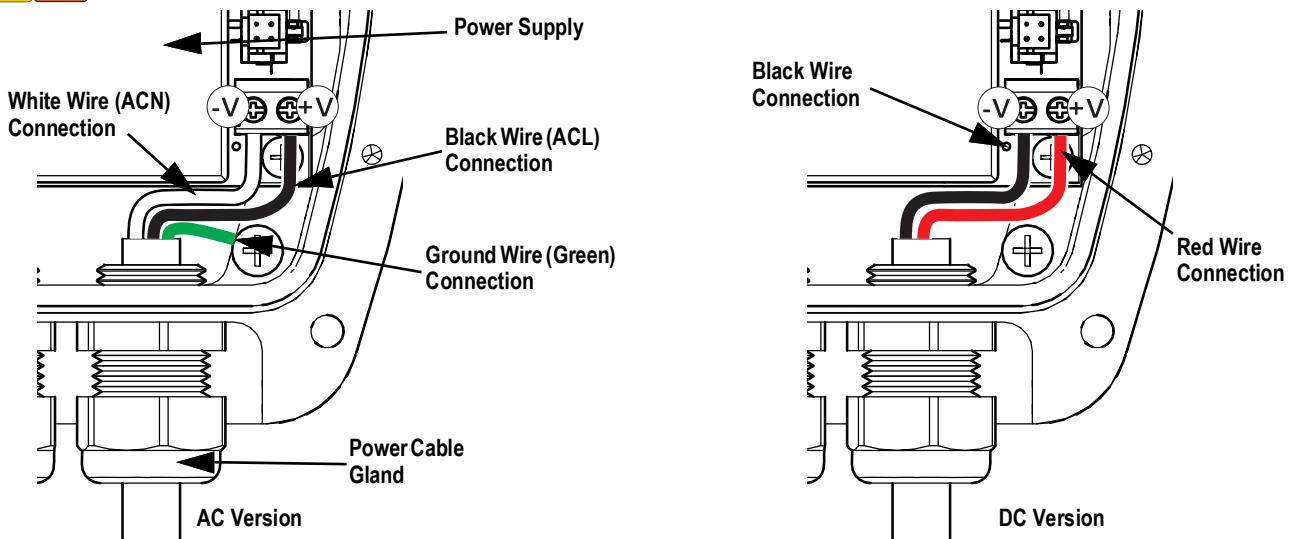

Figure 2-5. Power Supply
5. Push new cable through the cable gland and reconnect wiring as shown in Figure 2-5.